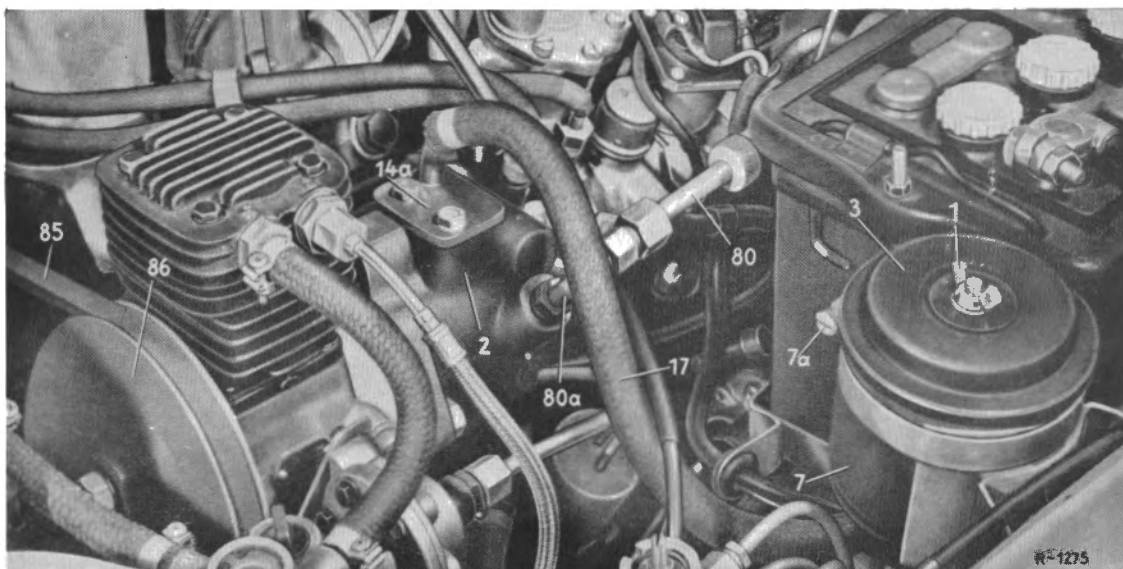

Fig. 46-26/4
1. Disconnect the high-pressure oil hose (80) and the connecting hose (17) from the high-pressure oil pump (2) (Fig. 46-26/4).
3. Unscrew the hexagon socket screws attaching the high-pressure oil pump (2) to the air compressor (Fig. 46-26/5).